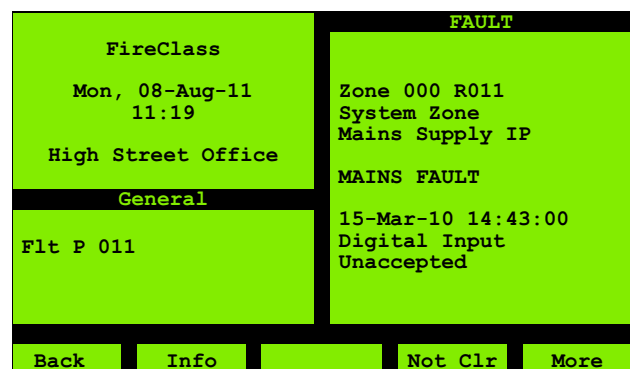

Fig. 4: A Fault Event Message
- The LCD backlight activates and the type of screen shown in Figure 4 is displayed. The General Window will show a “count” message, and the Operator Window will show an event message.
In Figure 4 the example event message is for a fault. (Not all events are faults. For example you may see a non-fault alert that the printer is offline.)
The format of the fault message in Figure 4 is as follows: